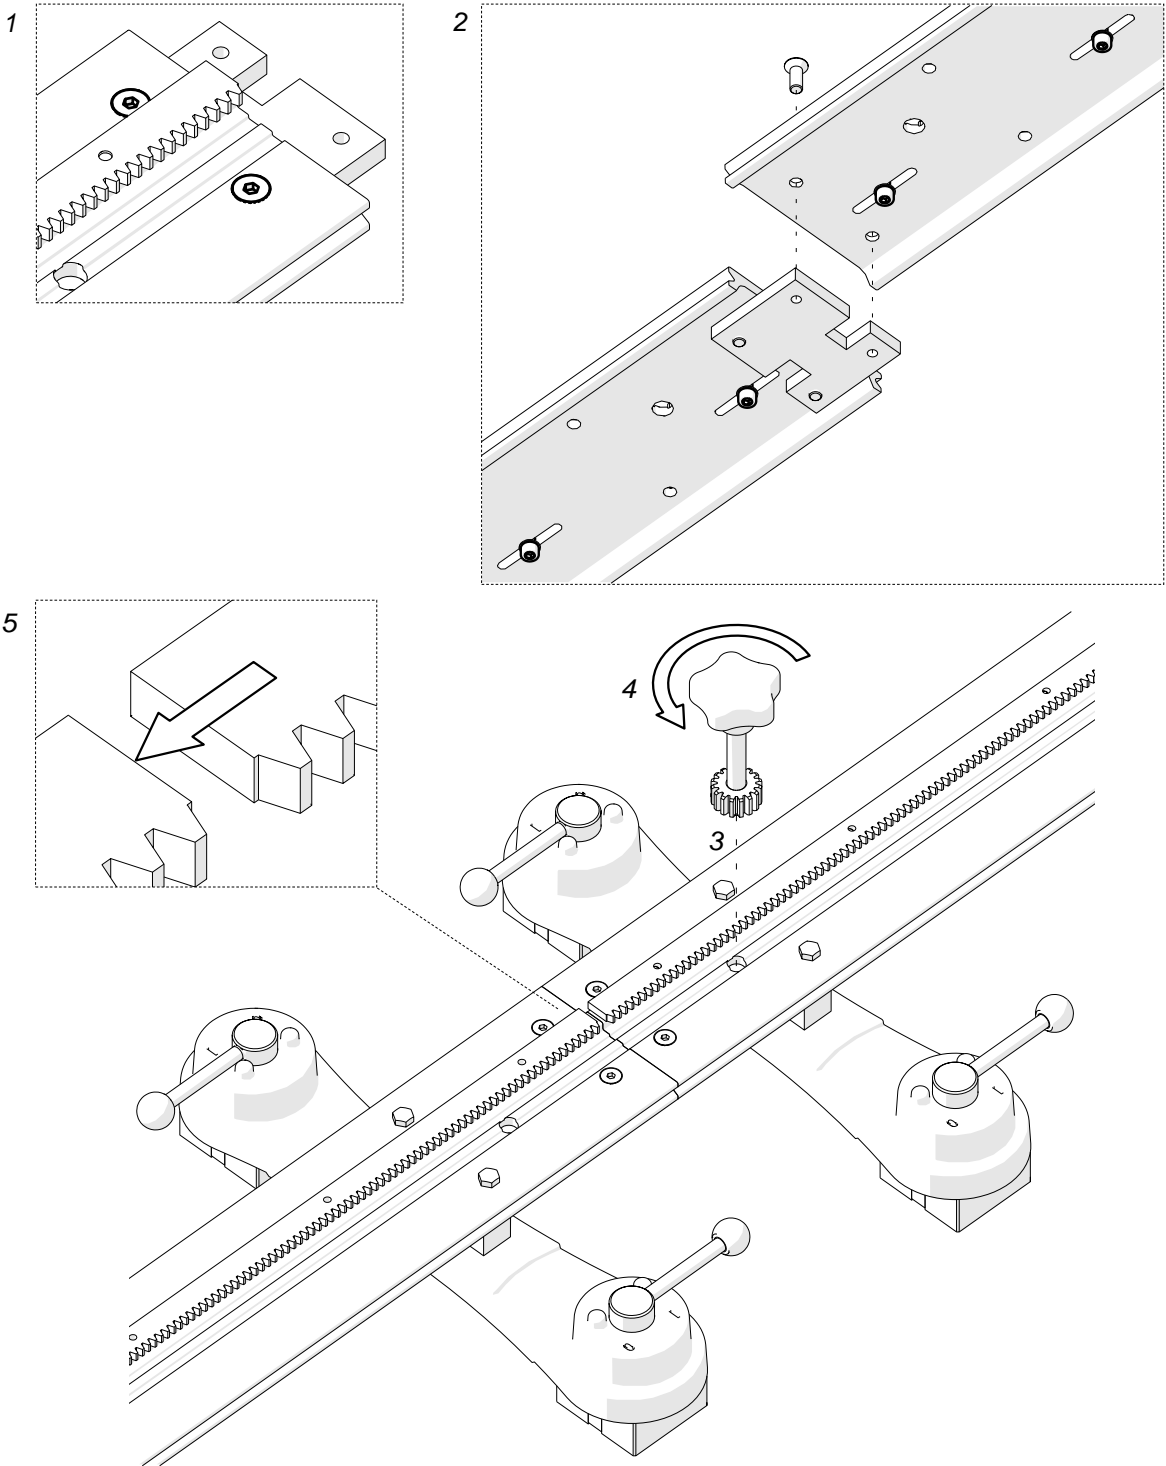

Fig. 2. Removing the gap between the racks of a semi-flexible track
Before attaching additional rails to a semi-flexible rail placed on a curve, use the 4 mm hex wrench to loosen the screws of the connecting plates (1, Fig. 2) and of the racks (2). Next, attach the rails, clamp them with levers, and then tighten the connecting plates. Place the rack adjustment tool (not included) into the hole (3), and rotate the tool to the left (4) to remove the gap (5) between the racks. Then, tighten the leftmost screw and the rightmost screw of each rack (2).